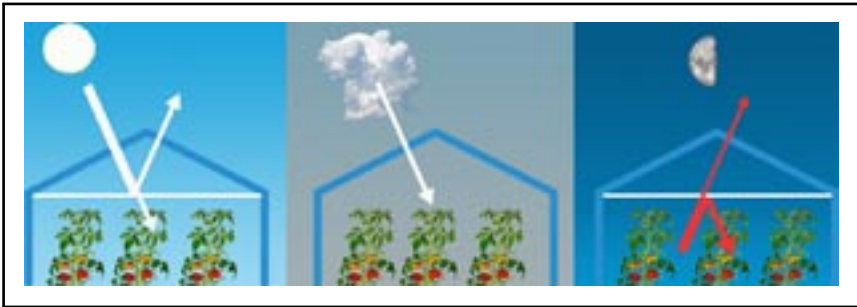

Figure 4. Effects of using a thermal/shade screen.
**Thermal/Shade Screens.** The use of a shade screen is the sophisticated way to control light (Fig. 4). It is important that the correct screen is selected. Screens that contain aluminium foil that reflect a percentage of the incoming radiation are the best. It is also important that a reasonable service life is achieved and 10 years should be expected. Total blackout screens are also available. Humidity control options are available with thermal screens and the screen manufacturer can leave a percentage of the screen open to allow air to pass through the screen. This feature also allows cooler air from ridge vents that can be humidified to fall through the screen and further enhance the environment.